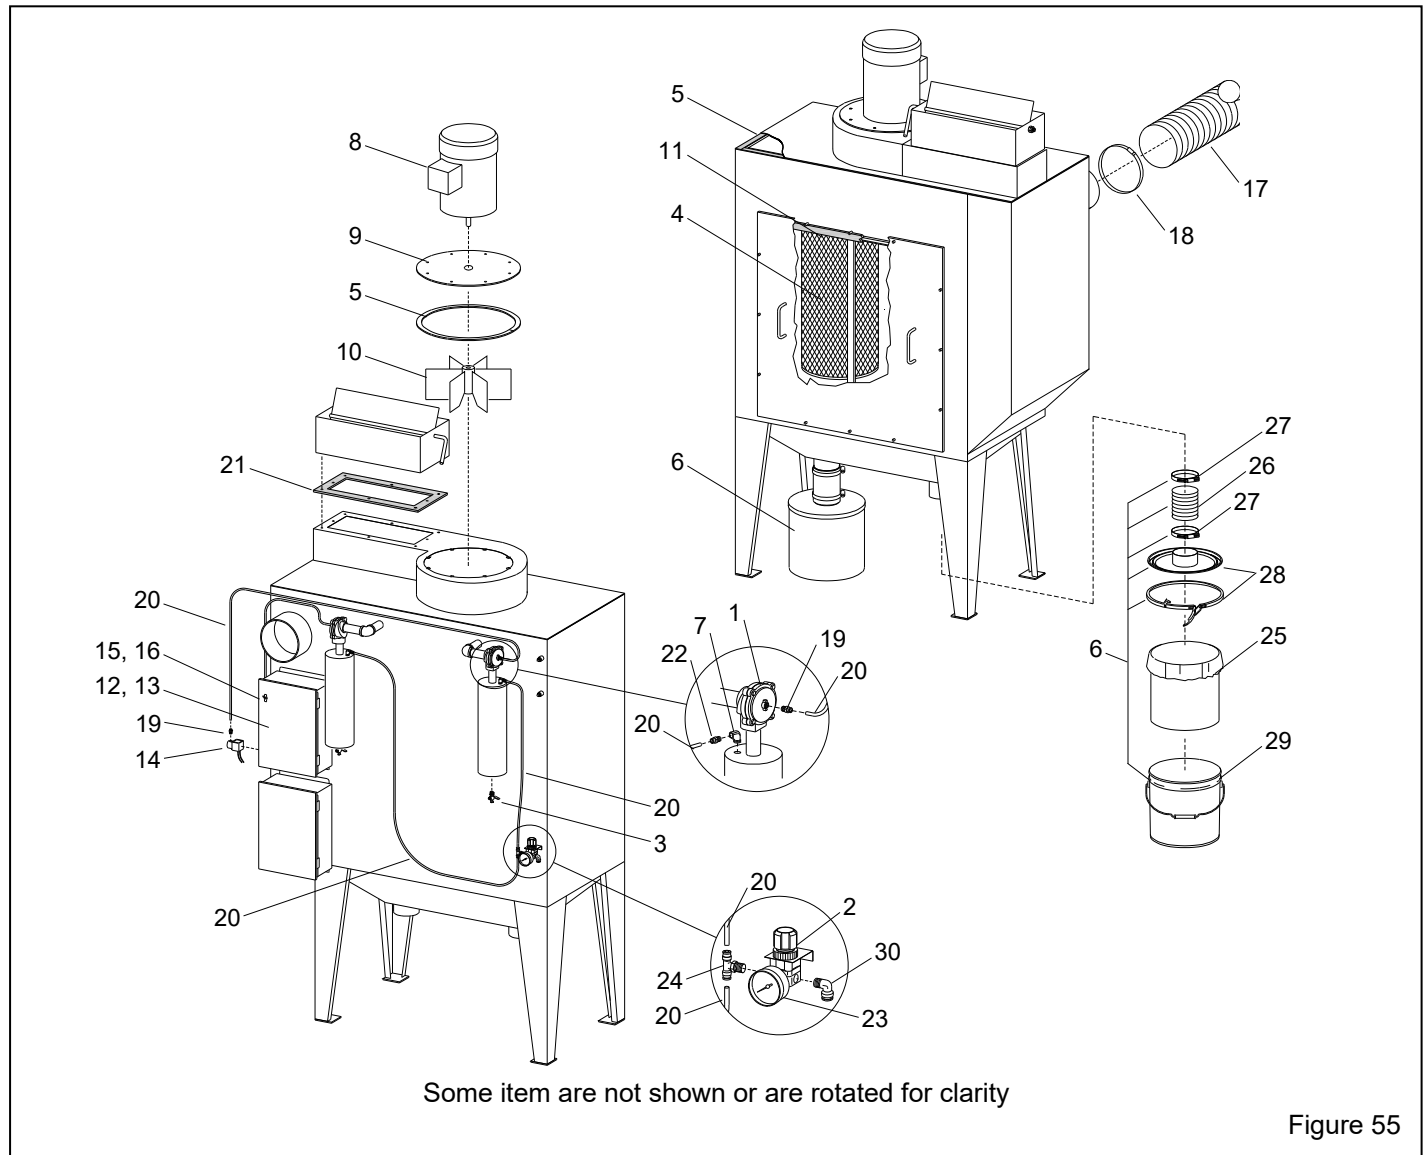

Figure 55
9.10 Dust Collector – Figure 55